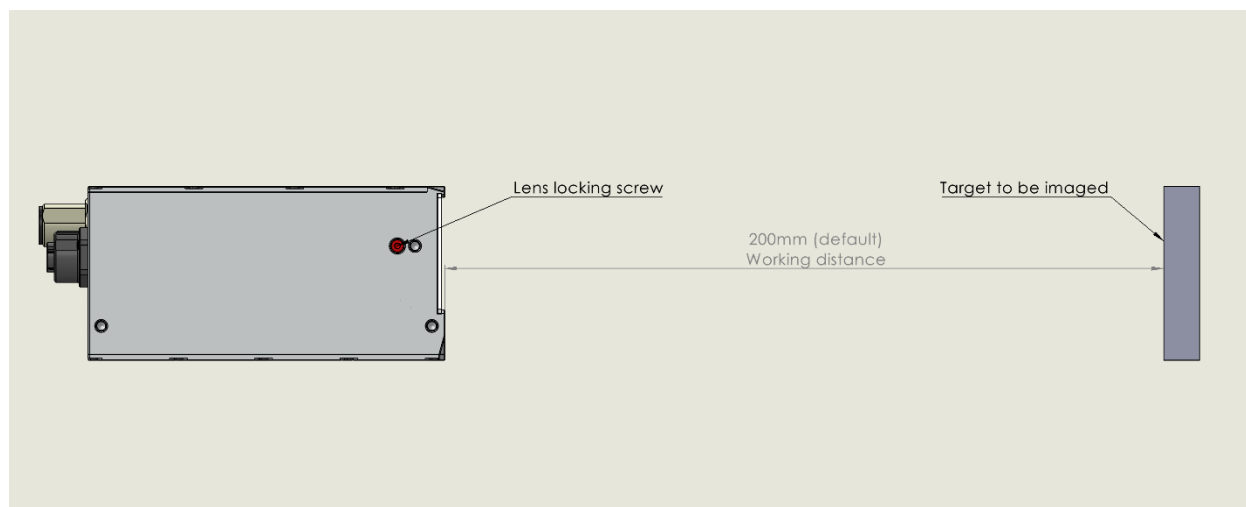

Fig. 1. Definition of working distance (WD).
- The working distance (WD) of the camera is measured from the frontmost surface of the camera unit body (see Fig. 1 above)
Position the camera to the desired location with respect to the target (see Fig. 1) in such a way that the lens locking screw and lens adjustment screw are accessible. By default the lens locking screw is attached to the right side of the camera (looking from back) but it can be moved to the left side if needed (see the following section for more detailed instructions).